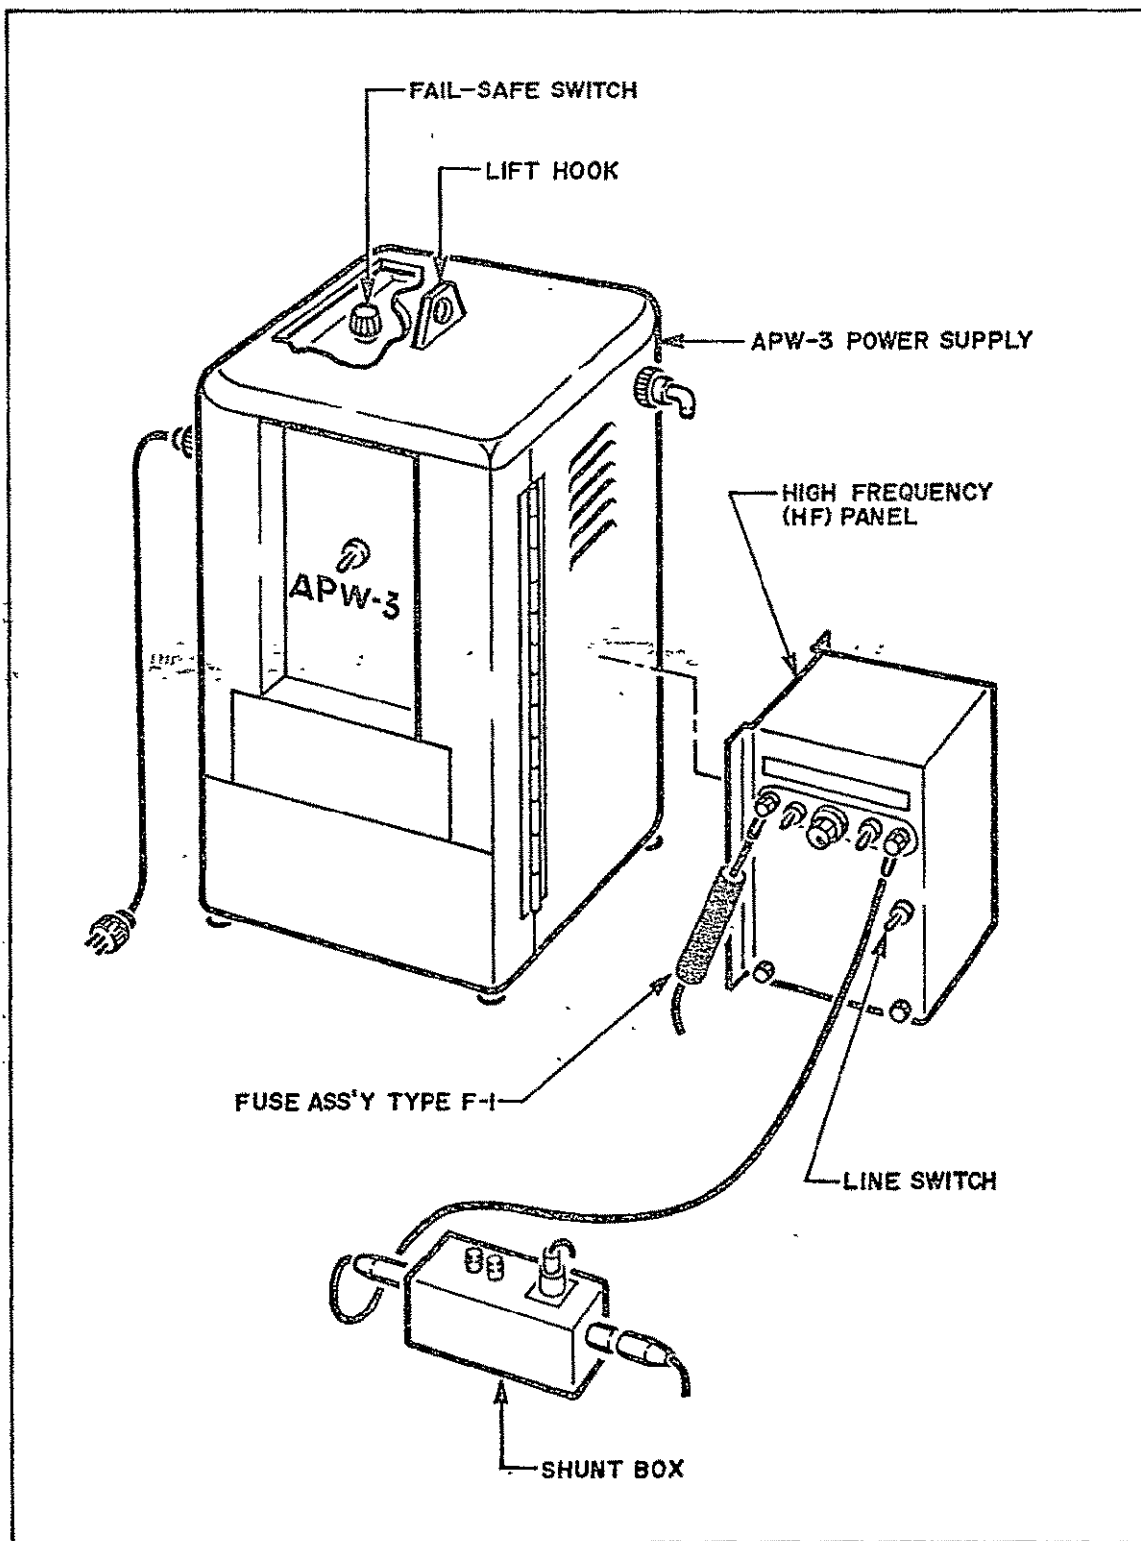

Figure 1. APW-3 Power Supply.
1.2.1 Functional Description of the APW-3 Power Supply, Figure 1.- The APW-3 power supply consists of a power supply unit with an attached high frequency panel, a fuse assembly, and a shunt (connector) box which are attachable to the HF panel. The power supply operates from a 480 vac, 3-phase, 4-wire, 60 cycle single source power outlet, with a useful output voltage range of 5-40 vdc; 80 volts open circuit, and has a power factor of 0.74. The rated output is 230 amps DC at 100 percent duty cycle; 300 amps DC at 60 percent duty cycle, with a useful output current range of 6 - 450 amps DC at 25 percent duty cycle.